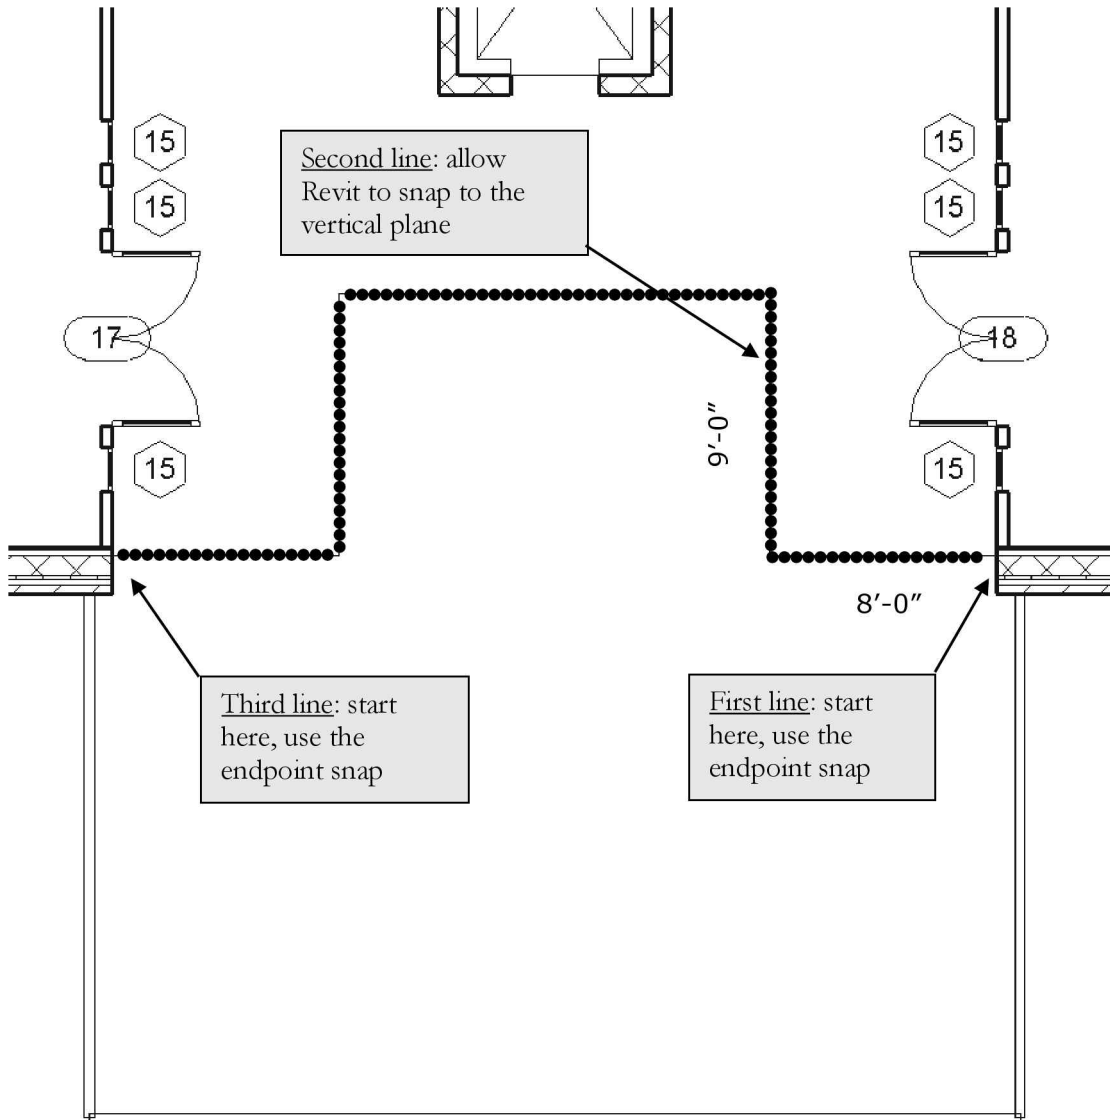

FIGURE 7-1.10 Atrium slab definition
35. Use the **Line** tool (from the *Draw* panel) to draw the edge of slab in the atrium (5 lines) as shown in **Figure 7-1.10**.